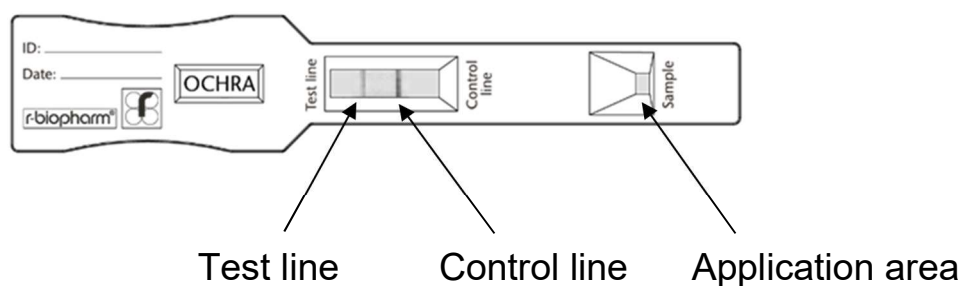

Figure 1: RIDA®QUICK Ochratoxin ECO test strip.
- Apply 100 µL of the sample solution (see chapter 8. Sample preparation) on the application area of the test strip (see fig. 1).
- Apply 100 µL of dilution 1 on the application area of the test strip (see fig. 1).